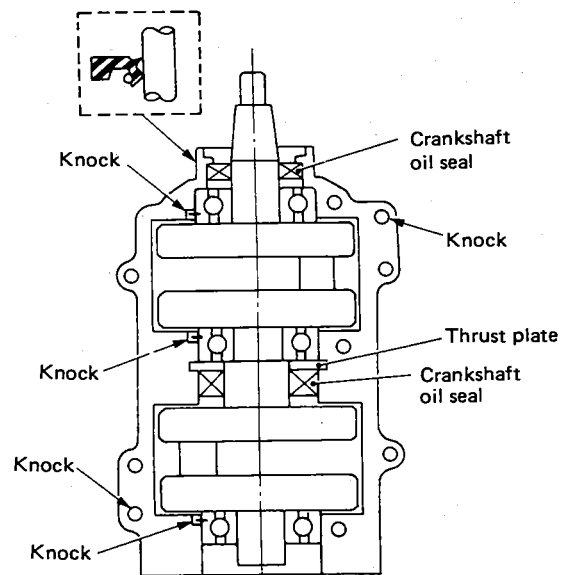

Fig.9.1
2. Press the main bearing so that the knocks approach the connection rod as shown in Fig.9.1. Also, confirm that the knocks have been press fit securely.
3. Attach the crankshaft oil seals in the position shown in Fig.9.1.